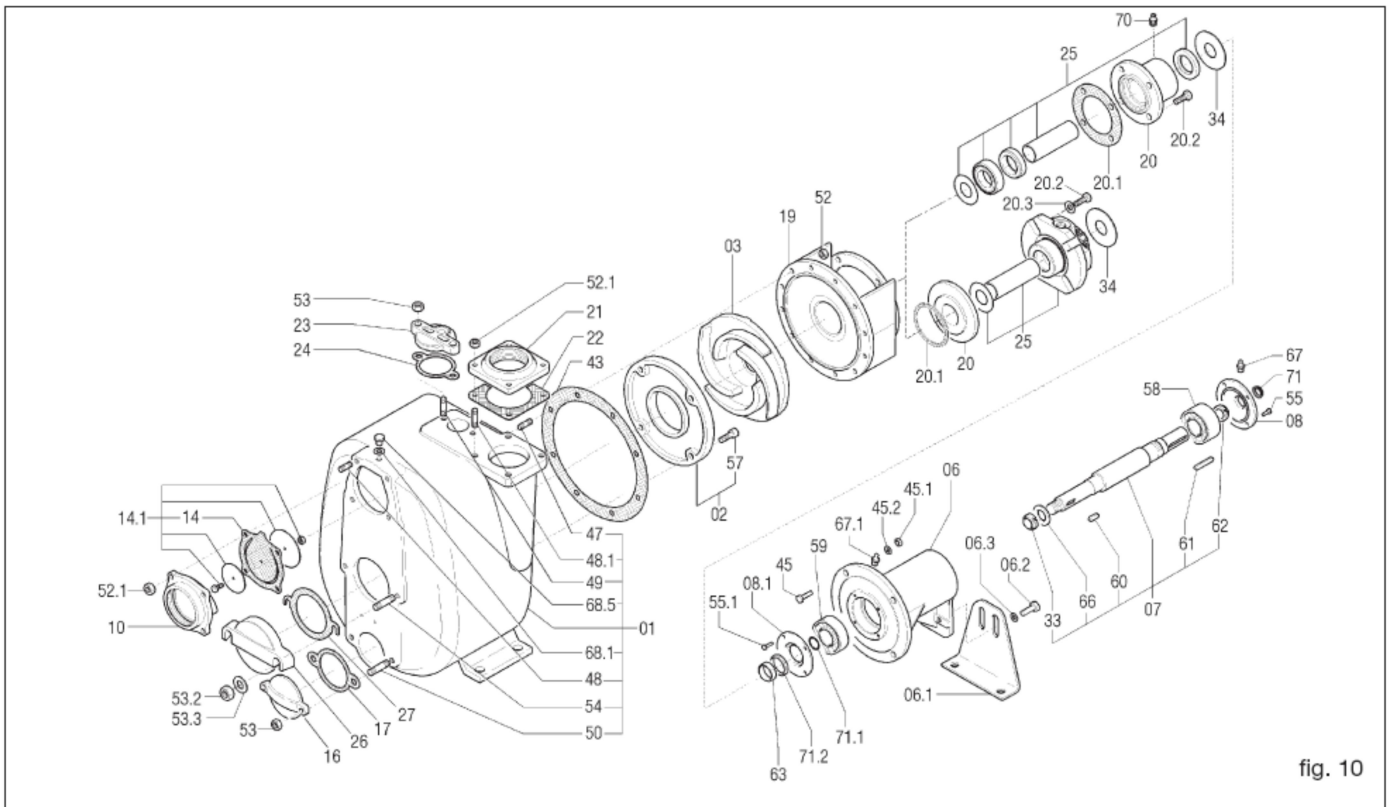

fig. 10
Cadoppi). If possible, avoid curves, elbows and constrictions which can limit the flow of liquid to the pump. Do not install a foot valve: the pump has a non return valve (14) incorporated in the suction port (fig. 10).
13.2 Replacing the impeller (fig. 10)
- Unscrew the nuts (52) and remove the pump casing, taking care not to damage the casing gasket (43)
- Block the impeller (03) and unscrew the self-locking impeller nut (33)
- If necessary, replace the casing gasket (43)
13.3 Replacing the wear plate (fig. 10)
- Unscrew the wear plate screws (57)
- Remove and replace the wear plate (02) If necessary, replace the casing gasket (43)
13.4 Replacing the check valve (fig. 10)
1 - 2 - 3 (figs. 10, 11, 12)
- Mount the seal support ring (25.1). Push this forward until it is possible to reassemble the impeller key (60)
- Reassemble the impeller (03), the impeller washer (66) and tighten the impeller nut (33)
- Reassemble the casing gasket (43) after smearing both sides with grease
13.6 Replacing type 4 - 5 cartridge seals (fig. 10, 13, 14, 15, 16)
- Unscrew the nuts (52) (fig. 10) and remove the pump casing, taking care not to damage the casing gasket (43)
- Block the impeller (03) and remove the self-locking impeller nut (33)
To achieve this, dimensions A and B in figs. 17, 18, 20, 21 must be as nearly as possible equal. To this end, use the shims (25.2) (fig. 11) supplied with spare mechanical seals. These shims are used to move the impeller further forward if it is too far from the front wear plate or too near the rear wear plate. The shims should be mounted between the seal support ring (25.1) (fig. 11) and the impeller. Further adjustments can be carried out using casing gaskets (and rear wear plate gaskets on models which fit these). The presence of the casing gasket (43) (fig. 10) 0.5 mm thick then creates the correct distance (fig. 19).
13.8 Maintenance of the bearings (fig. 10)